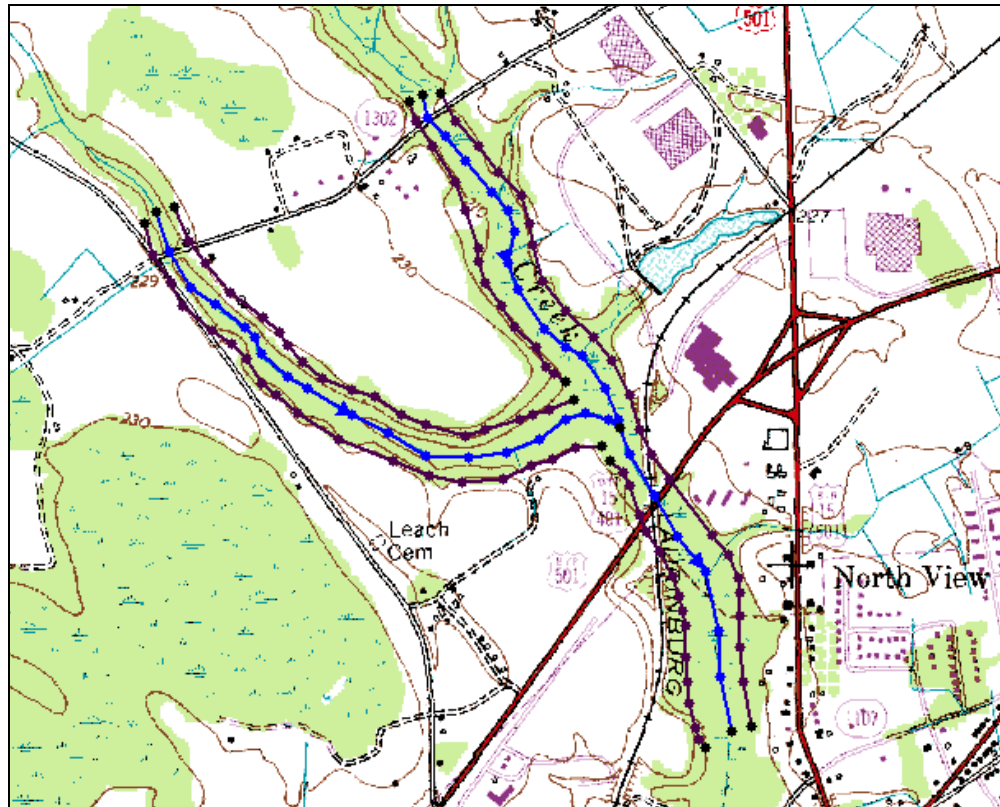

Figure 23-2 Centerline and bank arc placement
9. Following the pattern in Figure 23-2, create the centerline of the main channel from upstream to downstream by clicking points on the centerline one at a time. Double-click the last point to indicate that it is the end of the centerline.